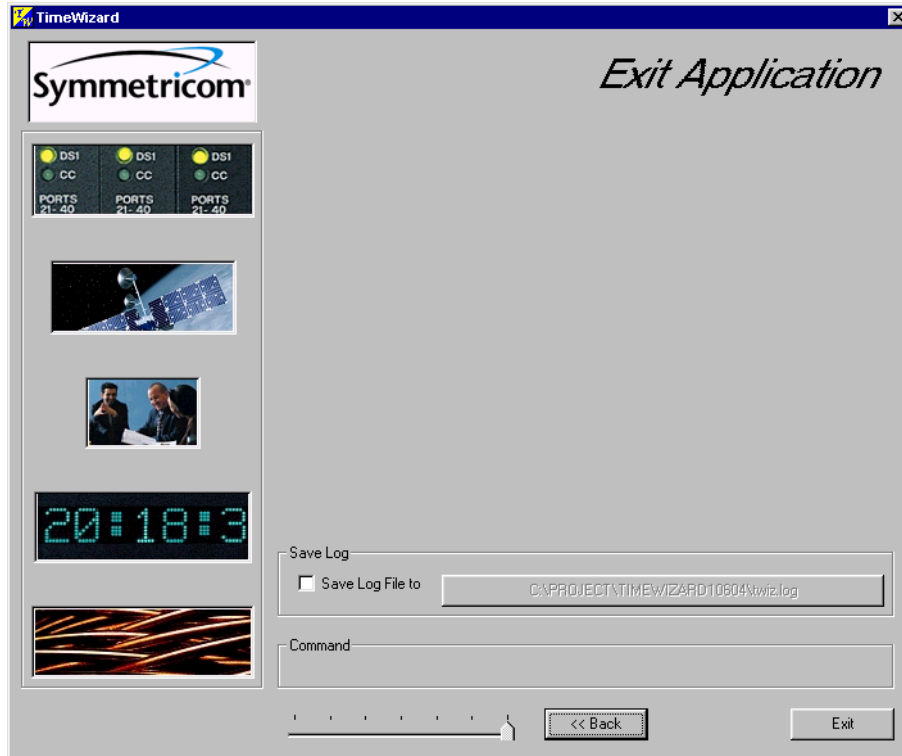

Figure 3-29. The Exit Application Window
16. Click **Next>>** when the alarm parameter settings are correct. The Exit Application window appears, as shown in Figure 3-29.